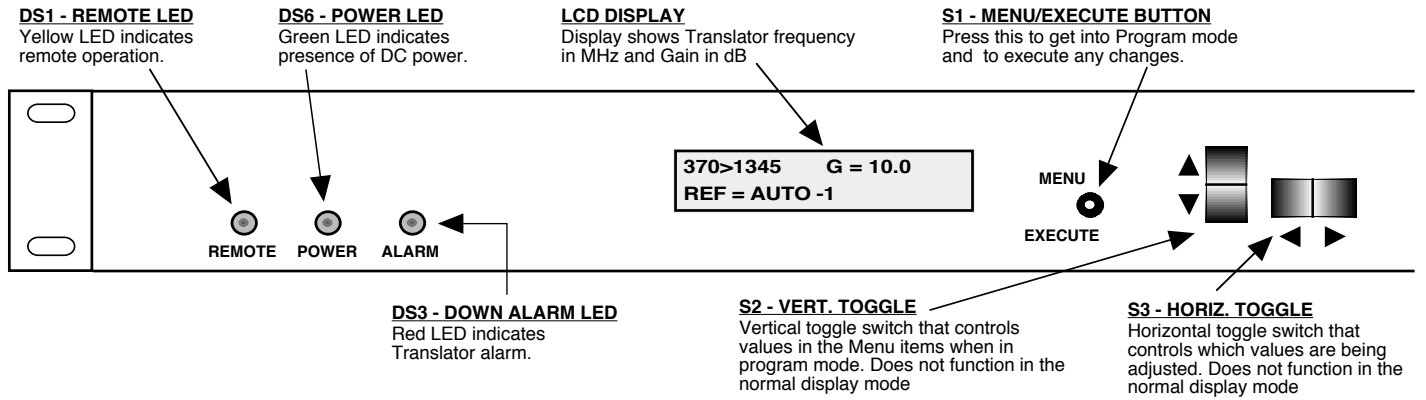

FIGURE 2.3 2083-0514 Front Panel Controls and Indicators
5. Be sure DS6 (green, DC Power) is on and DS (red, Alarm) is off (Figure 2.3).
Alarm indications appear on the LEDs (See figure 2.3).